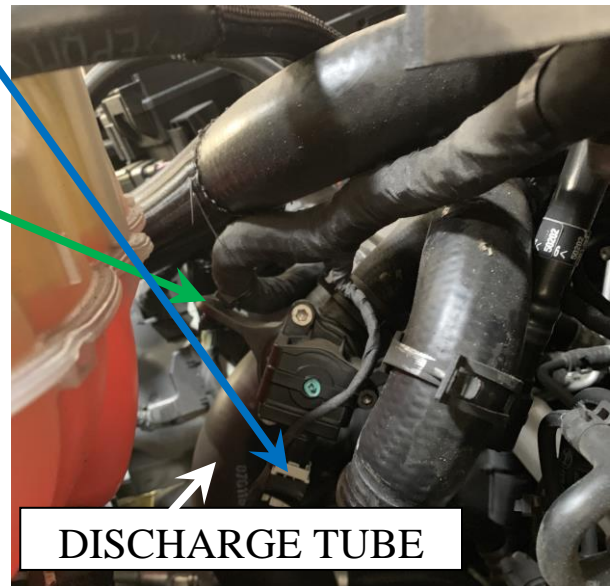

Fig. 6
1. Locate BOV solenoid wiring harness. See Fig. 6. Squeeze the connector end and pull.
2. Pry wiring harness retention clip from discharge tube. See Fig. 6